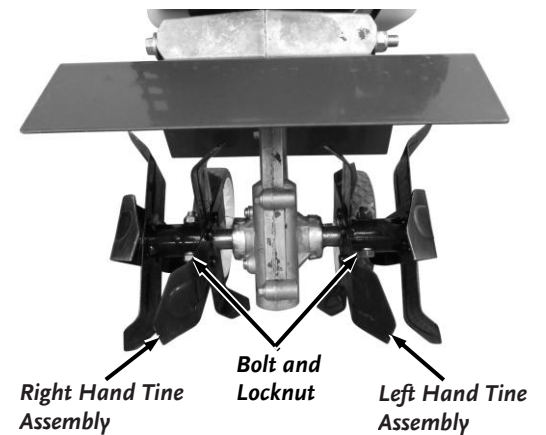

Figure 16
1. Remove the Bolt and Locknut that secures the right side Tine Assembly to the Shaft using two 13mm Wrenches (**Figure 16**).